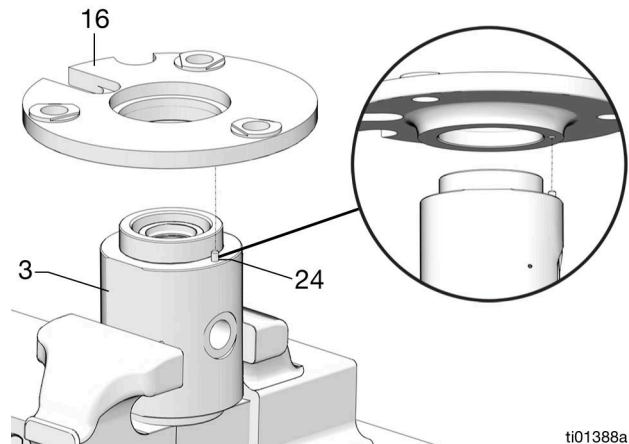

FIG. 19
4. Reinstall the outlet housing adapter by lining up the hole in the adapter with the pin on the outlet housing (FIG. 19).